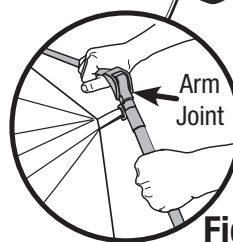

Fig. 6
- Fold the arm joints located at each of the tent corners. (Fig. 6)